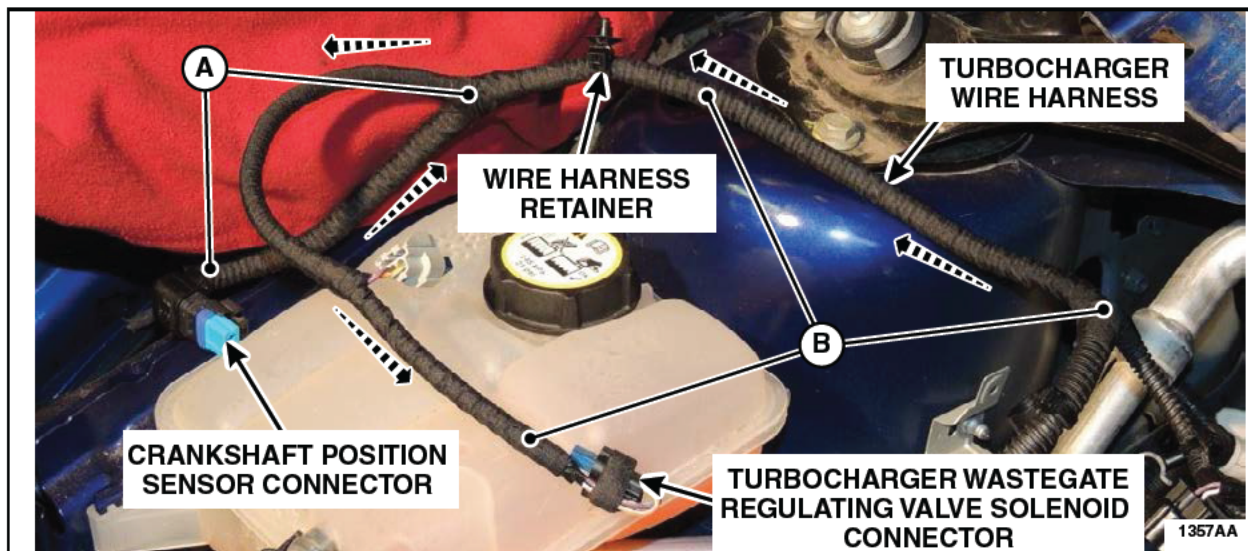

FIGURE F3
3. Replace the wire harness retainer with a *new* one supplied in the vehicle parts kit. See Figure F3.
4. Wrap the turbocharger wire harness convolute with the Coroplast® tape provided in the service kit. See Figure F3.
- Start and finish each length of tape applied with three (3) initial and three (3) finishing wraps.
- First, wrap the takeout for the crankshaft position sensor. Begin the wrap at the connector and end this portion of wrapping by going around the main harness at the takeout. See Figure F3, (A).
- Wrap the turbocharger harness starting at the takeout to the rear VCT solenoid. Proceed down the remaining length of harness to the turbocharger wastegate regulating valve solenoid connector. See Figure F3, (B).